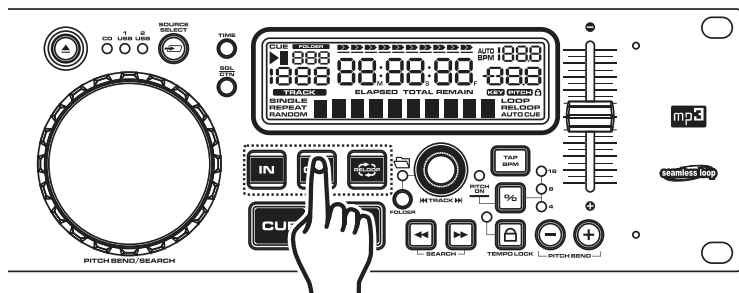

Figure 23
3) Press the **OUT BUTTON (17)** to set the ending point for your SEAMLESS LOOP (Figure 23). The **OUT and IN BUTTONS** will stay lit indicating a SEAMLESS LOOP is playing. Press the **OUT BUTTON** again to stop the Loop.
4) Press the **RELOOP BUTTON (17)** to reactivate the SEAMLESS LOOP. Press the **OUT BUTTON (17)** to deactivate the loop.